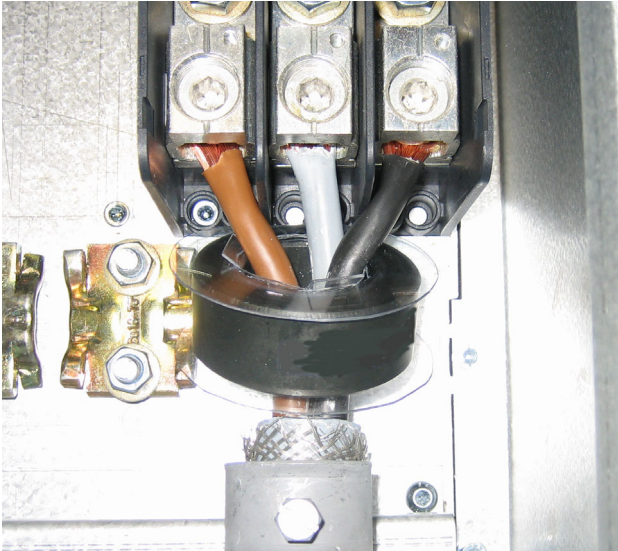

Fig. 55 Ferrite core mounted on the motor cables
Mount the ferrite core and its isolation sheet (included in the delivery) on the three motor phases U, V & W. The protective earth (PE) and the screen of the cable should be mounted outside the core see Fig. 55.